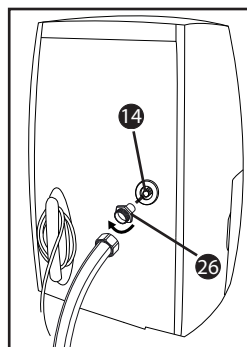

Fig. 4
- ◆ If you are using the EU garden hose adapter 26, screw a garden hose onto the EU garden hose adapter 26 (see fig. 4).